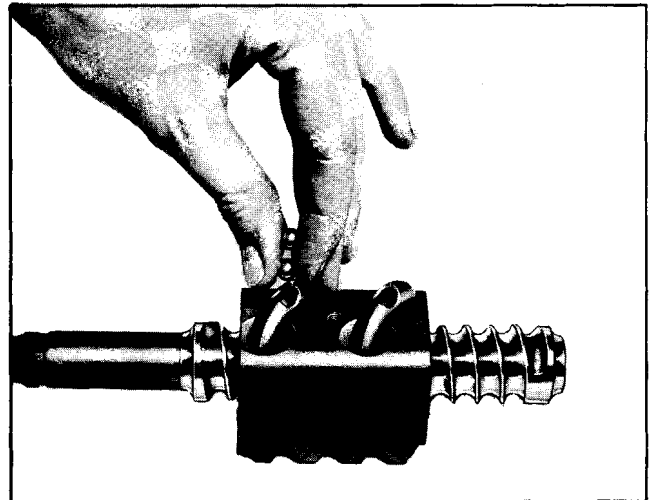

Fig. 9-76 Filling Ball Circuits
3. Place the remaining two guides together and insert them in the lower circuit (Fig. 9-76).